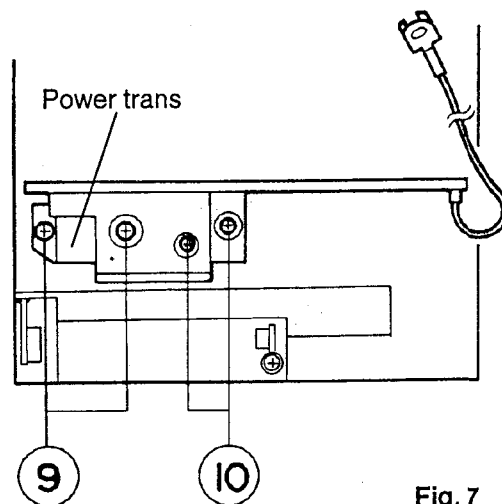

Fig. 7
■ Main Amplifier P.C. Board (refer to Fig. 7)
1. Remove the four screws (⑨ and ⑩) retaining the main amplifier P.C. board.